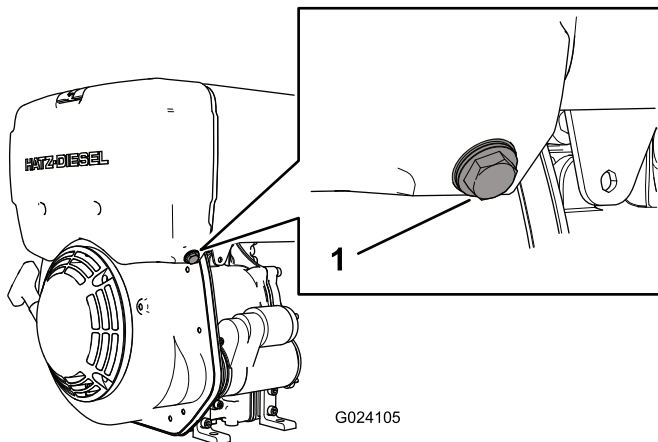

Figure 7
2. Loosen the water-trap bolt 3 to 4 rotations (Figure 7).